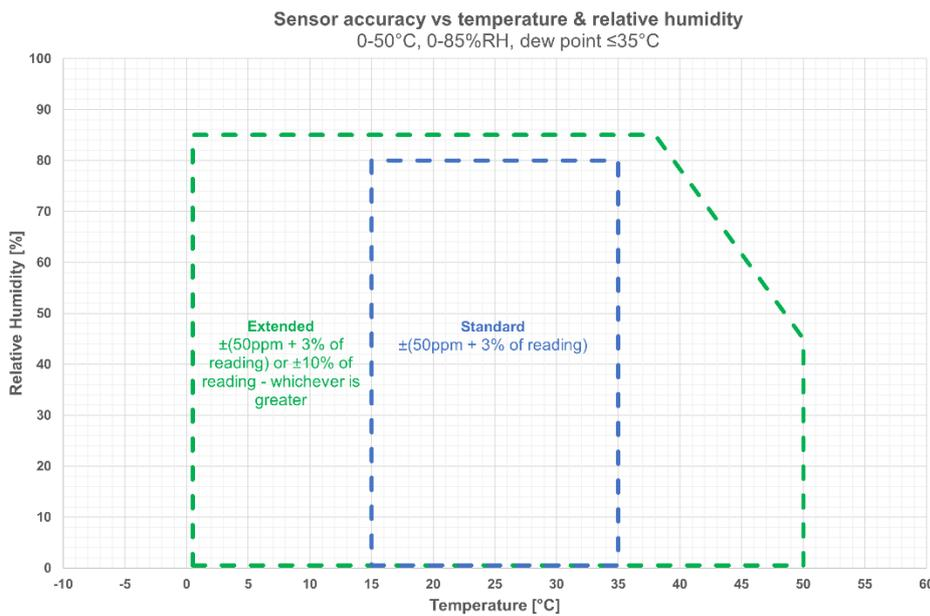

Figure 4. Accuracy over complete operating range (temperature and relative humidity)
- Note 2: ANSI/ASHRAE Addendum ab to ANSI/ASHRAE Standard 62.1-2022 specifies sensor to be accurate within ±75 ppm at concentrations of 600, 1000, and 2500 ppm when measured at sea level at 77 °F (25 °C). See figure 4.
Note 9: nRDY output pin disabled. See Figure 4 Average current.